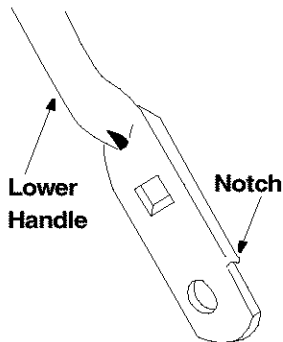

Figure 16
- Turn the lower handle around so the notch on the bottom of the lower handle is facing forward as shown in Figure 16 . Reassemble, placing the bottom holes in the handle over the weld pins in the handle mounting bracket.